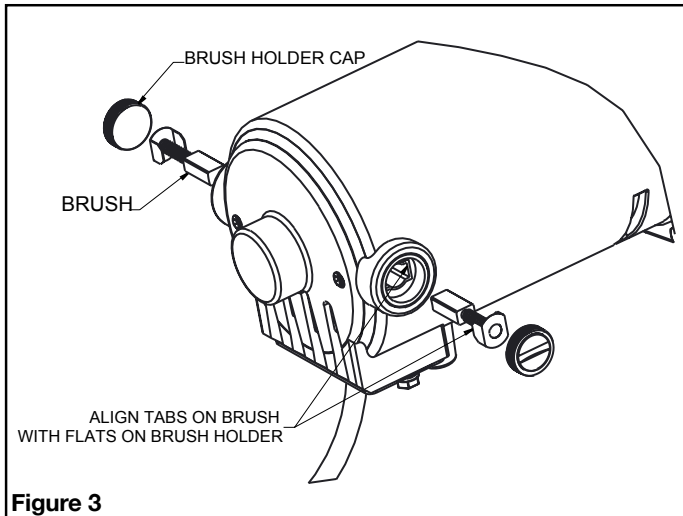
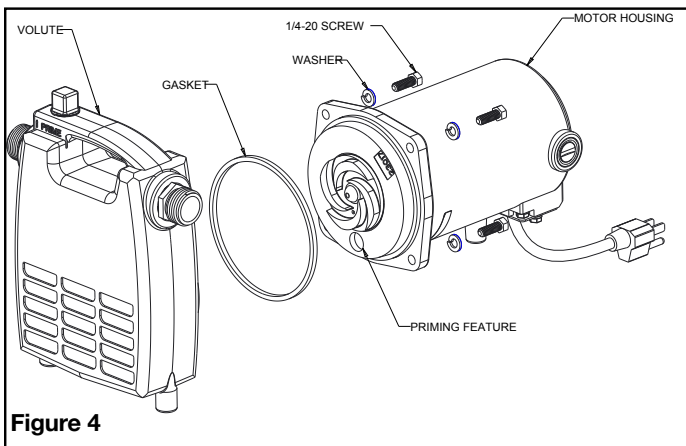

Figure 3
Figure 4
- 4) Replace brushes, make sure springs do not pinch during assembly. Align/center tabs on the back of the brush spring with the flats on the brush hlder. REF. fig3.
3. Remove brush holder caps and brushes (make note of which side of the pump the brush was in also the orientation of the brush as you will want to put them back the same way they came out.) Ref fig.3. Remove the (4) 1/4-20 screws and lock washers holding the volute to the motor housing. Ref fig.4
14. Replace the brushes and caps, make sure to put them back in the same way they came out. Make sure the springs do not pinch during assembly and align/center the tabs on the back of the brush spring with the flats on the brush holder. Ref. fig.3